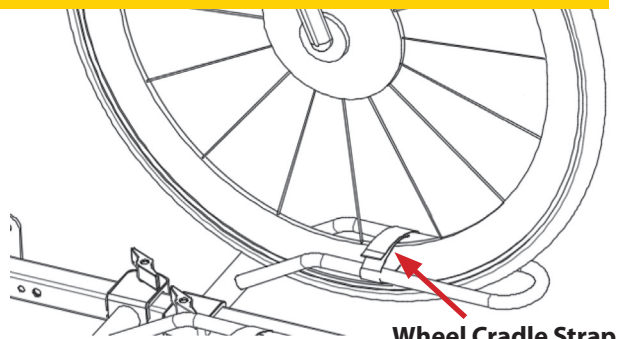

FIGURE 13
Loop (1) Wheel Cradle Strap (part #25) over each wheel and secure. (See Figure 13)